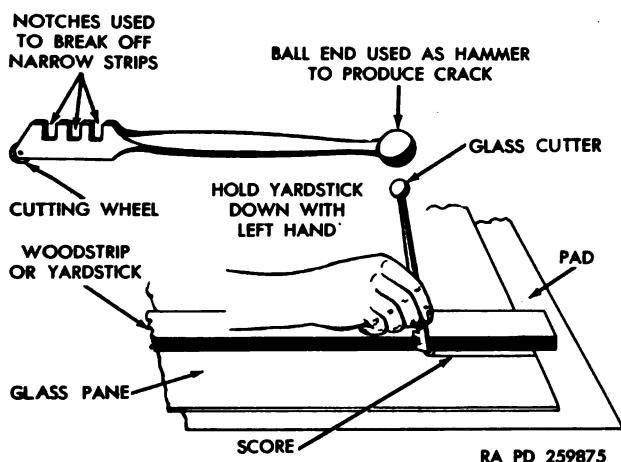

Figure 254. Using a glass cutter.
A bolt clipper or cutter is shaped like a giant shears with short blades and long handles. Different cutting edges are designed for specific applications. Figure 252 illustrates various types of cutting edges. Figure 253 illustrates types of cable cutters. Figure 254 shows the wheel-type glass cutter.
i. Glass Cutters. Two glass cutters are available; one is the single wheel, general purpose type (fig. 254), while the other has a 2- to 24-inch circular capacity incorporating a graduated beam (not illustrated).
A glass cutter (fig. 254) actually does not cut glass; it splits it. If the wheel is sharp and it is drawn over the glass at the right speed and pressure, it makes a fine score or groove by slightly crushing or pulverizing the glass under the edge of the wheel. The beveled sides of the wheel act as wedges which push against the sides of the groove and pry the glass apart so that a crack is started. If a crack fails to start in the cutting, tap the scratch or score with the ball end of the glass cutter, as you would with a hammer, to start a crack. Break off narrow strip along the edges by placing the strip into a notch in the cutter and using the handle as a leverage to break off the narrow strip. Glass tubing or rod is cut by nicking the surface with a triangular file.
(a) Place several layers of newspaper or a piece of carpet on a firm level surface and place the glass pane upon the padding (fig. 254).